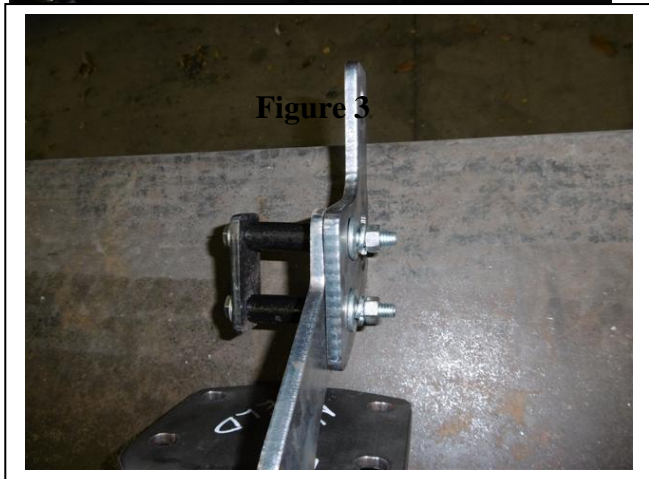

Figure 5. Configuration of components
11. Fit ECB winch cradle onto end of chassis rail and fix with two original bolts and two M10 x 40mm bolts, flat washers, spring washers and nuts into front of rail (per side). (finger tighten only). From outside of chassis rail, install two M10 x 100mm bolts, flat washers into tow hook and steel mount through chassis rail, slide spacer tubes onto bolts then fit winch cradle gusset onto bolts, fix with flat washers, spring washers and nuts. **See figure 5.** In rear hole of ECB steel tow hook, install 6mm alloy washer between tow hook and chassis rail, fix using one M12 x 4mm bolt, spring washer and flat washer (supplied)(per side). Centralize cradle to vehicle body. Align and tighten all bolts.